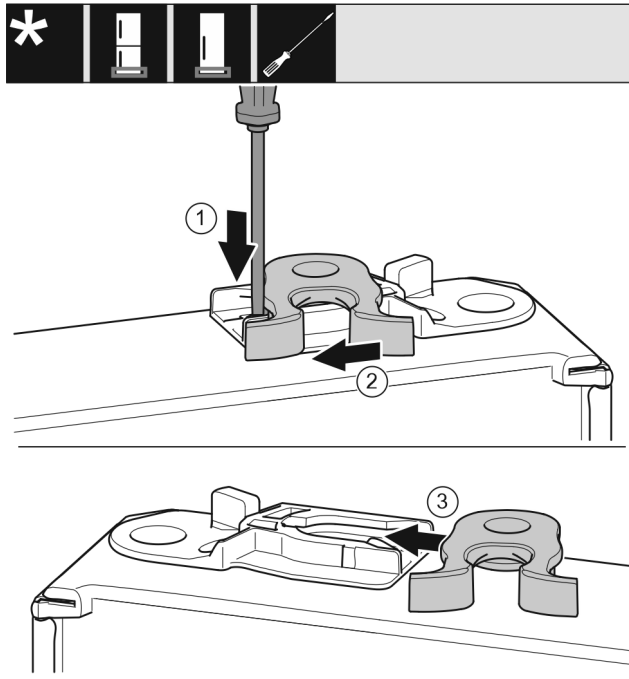

Fig. 20
- ▶ Use a slotted screwdriver to push the tab Fig. 20 (1) downward.
- ▶ Pull the closing hook Fig. 20 (2) out of the guide on the other side.
- ▶ Push the closing hook Fig. 20 (3) to the other side in the guide.